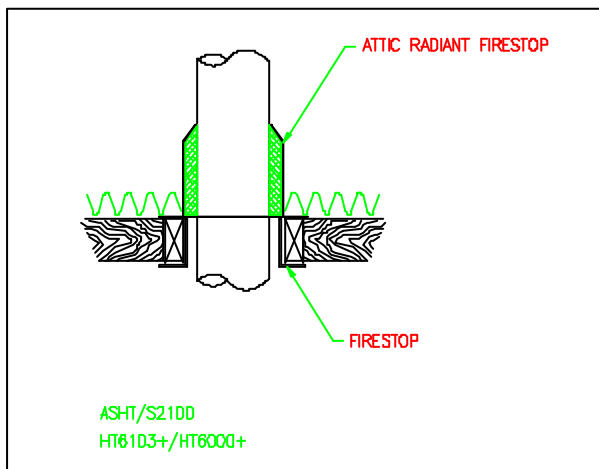
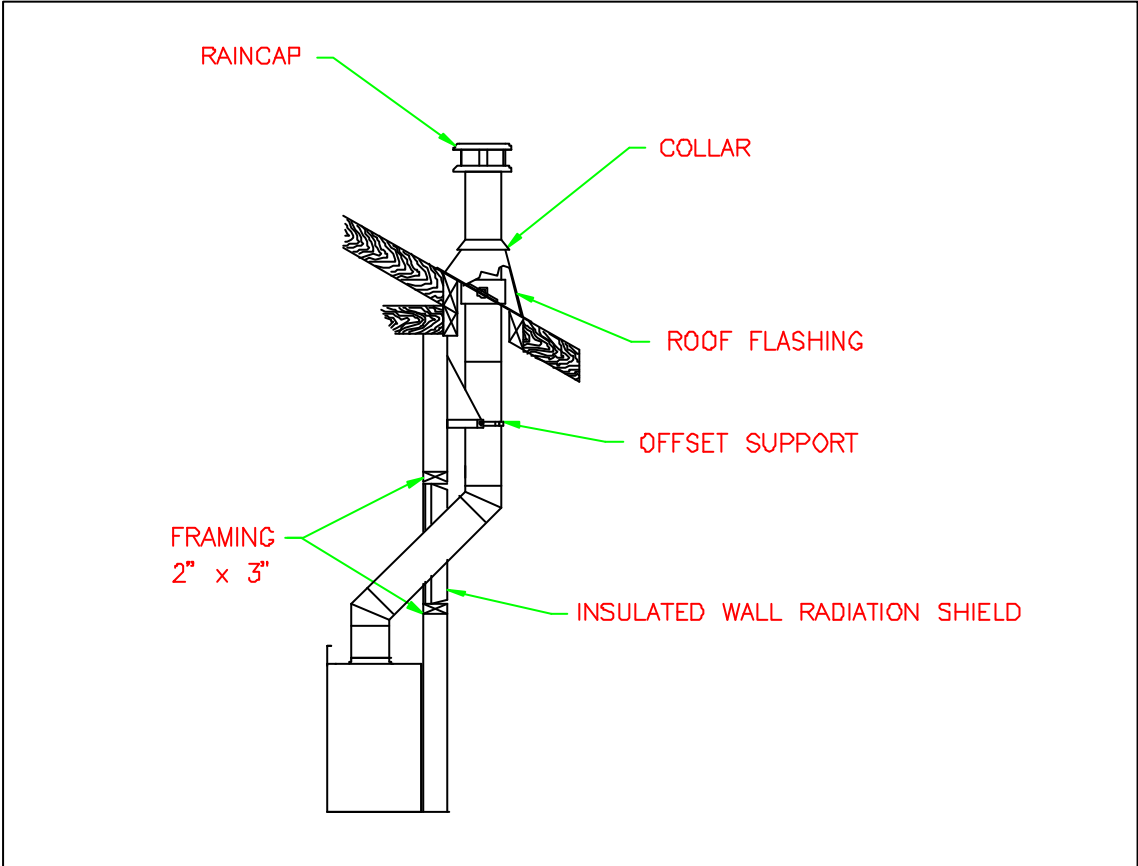

Figure 28
Figure 34
2. From below, install a firestop in each ceiling/floor separation through which the chimney will pass. At the attic level, install an attic radiation shield from above. (figures 28 & 29).
1. Install the first elbow; turn it in the required direction. Fasten it to the chimney with the three (3) ½ (12 mm) metal screws provided with the elbow.
2. Install the necessary chimney lengths to achieve the required offset. Lock the chimney lengths together: it is recommended to use three (3) ½ (12 mm) screws. If the offset length is made of two (2) chimney lengths or more, use an offset support halfway up the offset. If penetrating a wall, install a wall radiation shield (see figures 34 & 35).
3. Use another elbow to turn the chimney vertically. Secure the elbow, using three (3) ½ (12 mm) screws (provided with the elbow).
5. From below, install a firestop (See figure 28).